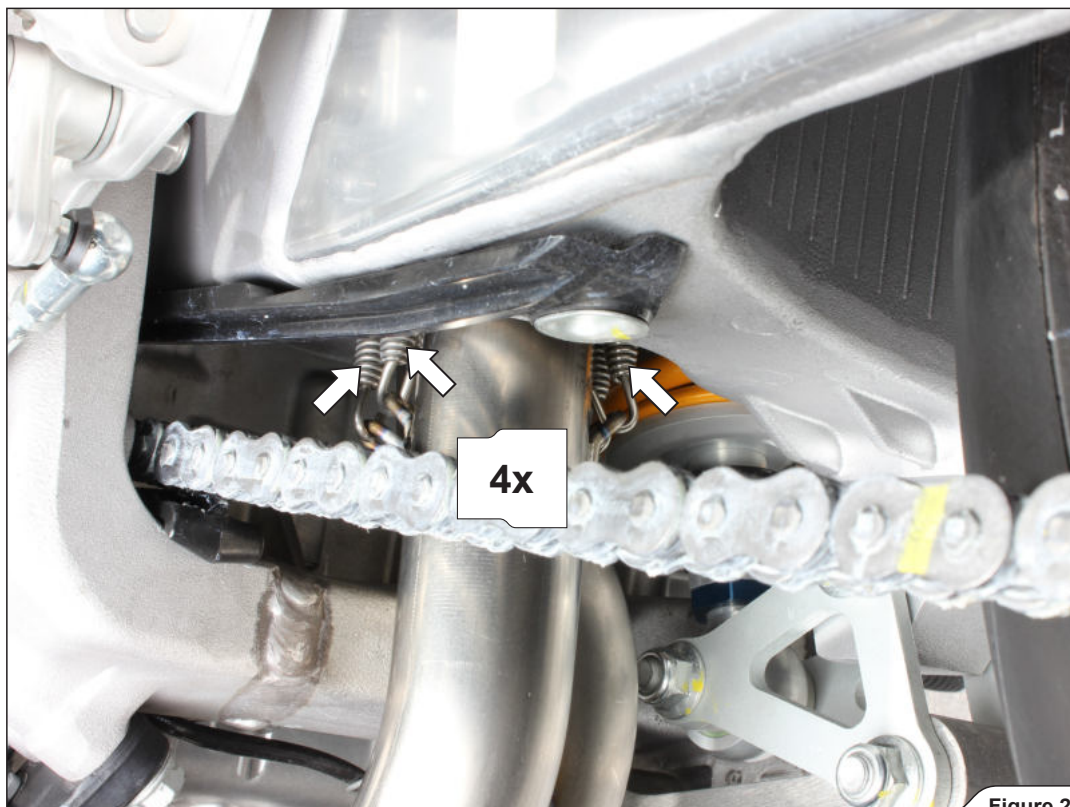

Figure 25
9. Attach the springs at the rear and front headers - collectors joints (Figure 25, 26).